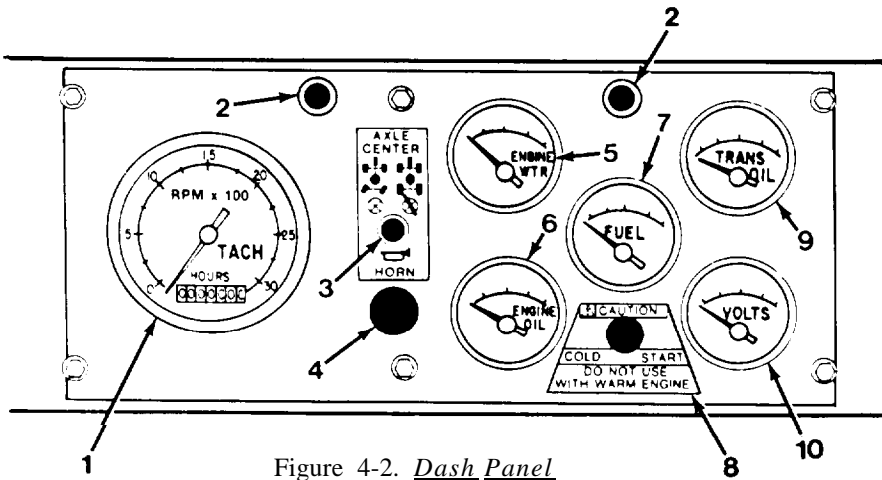

Figure 4-2. *Dash Panel*
1. **Tachometer/Hour Meter** indicates engine rpm (normal idle 800 rpm; governed 2,950 rpm) and operating hours of engine (Figure 4-2).
3. **Rear Axle Centering Indicator** light is off when axle is centered with wheels parallel to line of travel for two-wheel steering. Light is on when wheels are off center. When light is off, switch to two-wheel steering (Figure 4-2).